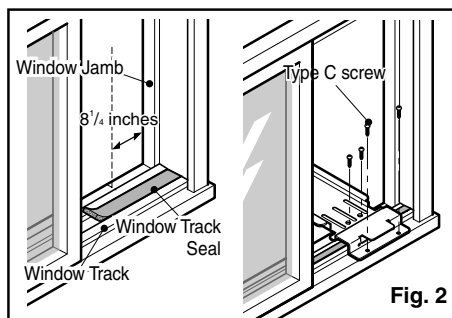

Fig. 2
2. Remove protective backing from Window Track Seal and apply seal to window track. (Fig.2)
3. Measure and lightly mark a line 8-1/4 inches from window jamb. Center the Support Bracket assembly on the window track and fasten with 4 Type C screws. (Fig. 2)